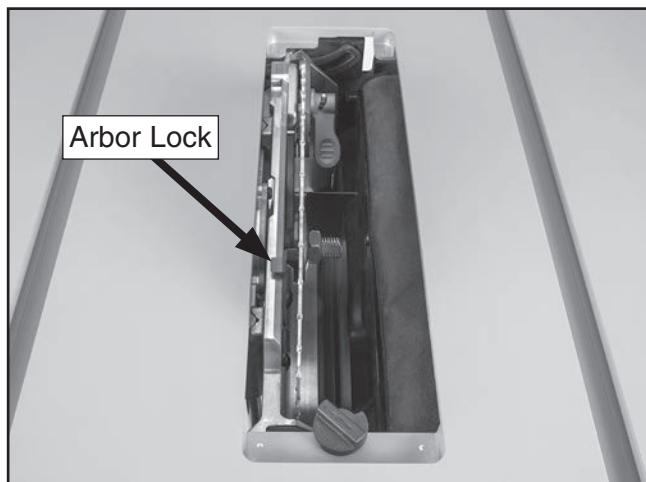

Figure 29. Location of arbor lock.
3. Push arbor lock in (see **Figure 29**) and rotate existing blade until it locks in place (or rotate arbor if no blade is installed).